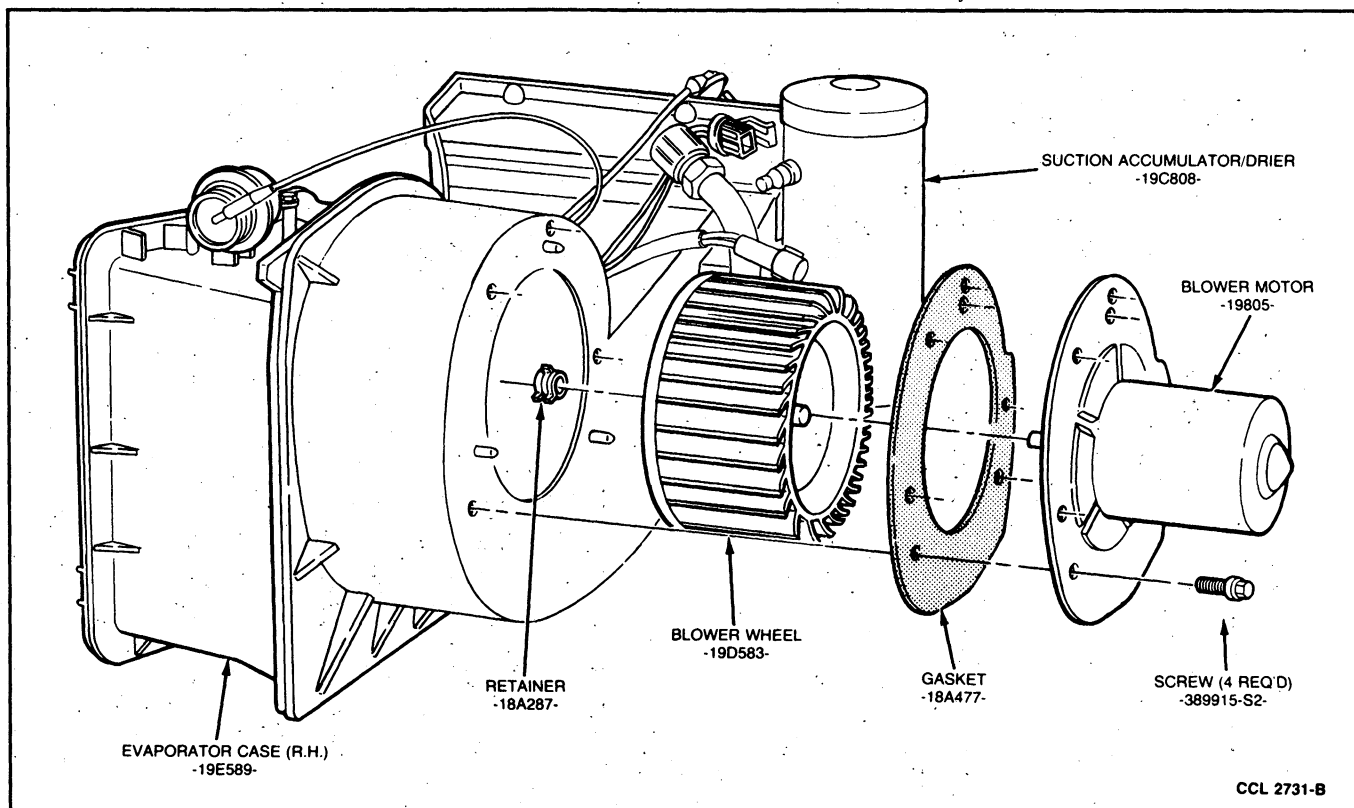

FIG. 19 Blower Motor and Wheel Removal
6. Holding cooling tube aside, pull blower motor and wheel from heater blower assembly and remove it from vehicle (Fig. 19).